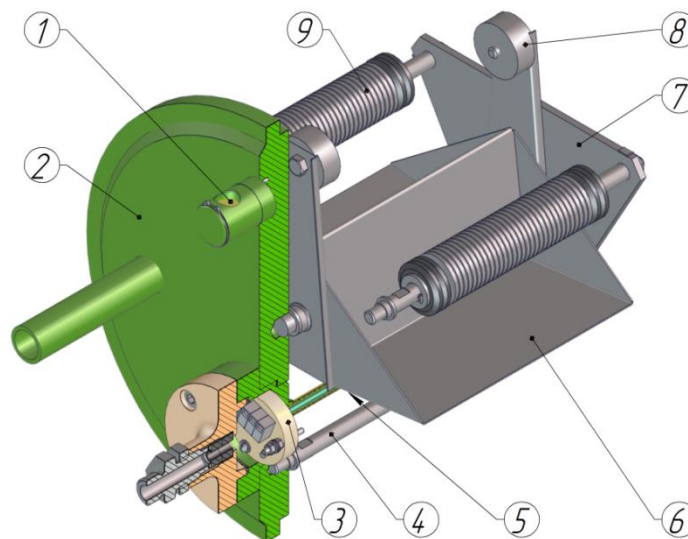

Fig.1.2 - Sensor
Measuring unit (fig.1.2) consists of the measuring chamber (6). There are two weights (8) located on the chamber to change (adjust) the center of mass of the measuring chamber. The measuring chamber is mounted on the cover (2) and the back support (7) on the bushings. The back support is fixed to the cover with studs (4). The measuring unit also includes a shock absorber (9), a damper (for EM-300-210 and EM-300-480), a pulse sensor [pulse sensor with a normalized output signal] (3), a slope indicator (1) for adjusting the position. Measuring units differ in the size of the measuring chamber.
Table 1.3 - Description for fig.1.2
The principle of operation of the measuring chamber is as follows. One part of the measuring chamber is filled with the medium until equilibrium is disturbed. After that, the chamber rotates to discharge the medium. Simultaneously another chamber is filled up with the medium. When the measuring chamber is tipped over, the edge of its unfilled part bumps the shock absorber (9) (see Figure 1.2).